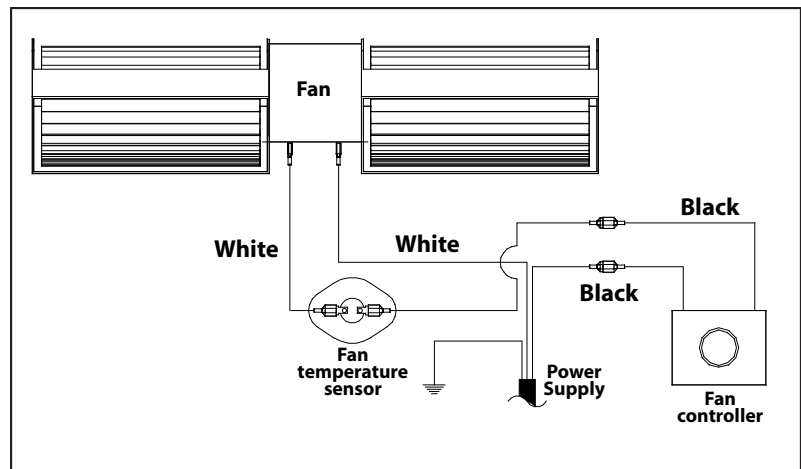

Figure 51: Wiring Diagram For Fan Control.
3. Open the gas valve cover. Carefully cut the decal portion on the control panel and install the fan control switch in this location. See Figure 51 for wiring of optional blower.